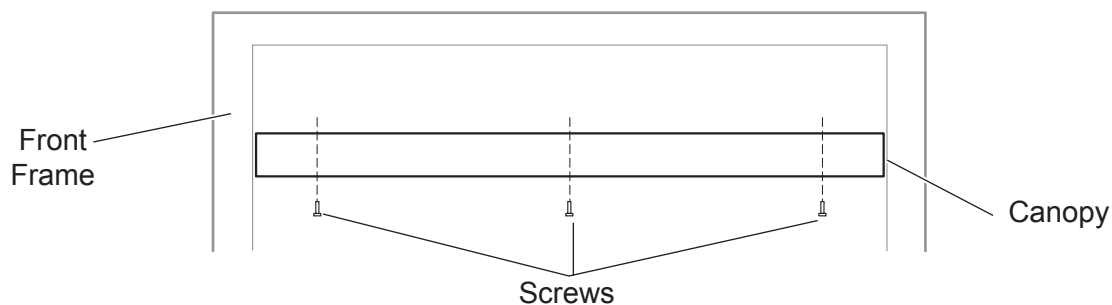

Figure 13 - Installing Canopy
1. Locate three (3) holes at the top of the front frame. *See Figure 13.*
3. Secure canopy to front of frame with screws provided. *See Figure 13.*